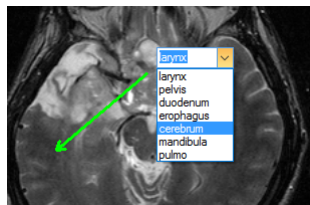

Figure 200 – Assigning a label to the measurement
2. An edit box is then displayed near the measurement (see Figure 200). To speed up the entry of the most frequently used labels, a combo box is available containing up to 20 of the most recently used labels (sorted chronologically)